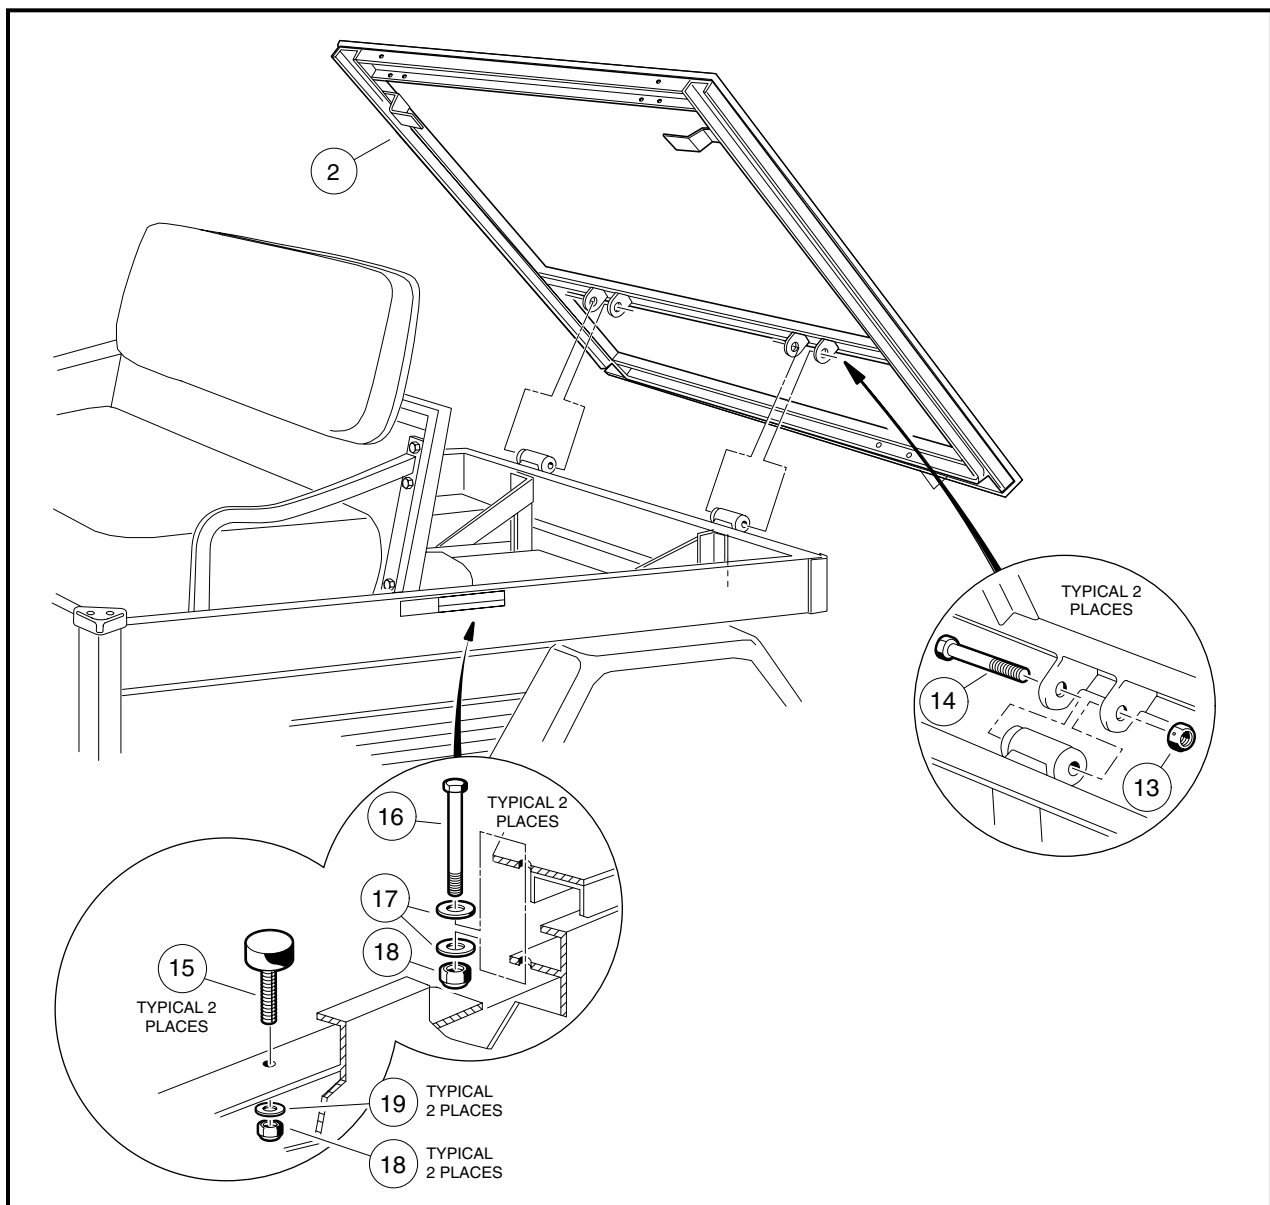

Figure 4-13 Flat Bed – TransPorter 4
1. Remove the two bolts (16), washers (17) and lock nuts (18) that secure the front of the flat bed to the vehicle body (**Figure 4-13, Page 4-16**).
2. Remove the two lock nuts (13) from left and right hand flat bed hinge assemblies.
3. Apply slight upward pressure (by hand) on the rear of the bed to relieve pressure on the hinges and remove the hinge bolts (14) from the hinge assemblies (**Figure 4-13, Page 4-16**).
2. Tighten the bolts (16) and lock nuts (18) to 15 ft-lb (20.3 N·m) (**Figure 4-13, Page 4-16**).
3. Tighten the bolts (14) and lock nuts (13) to 20 ft-lb (27 N·m).